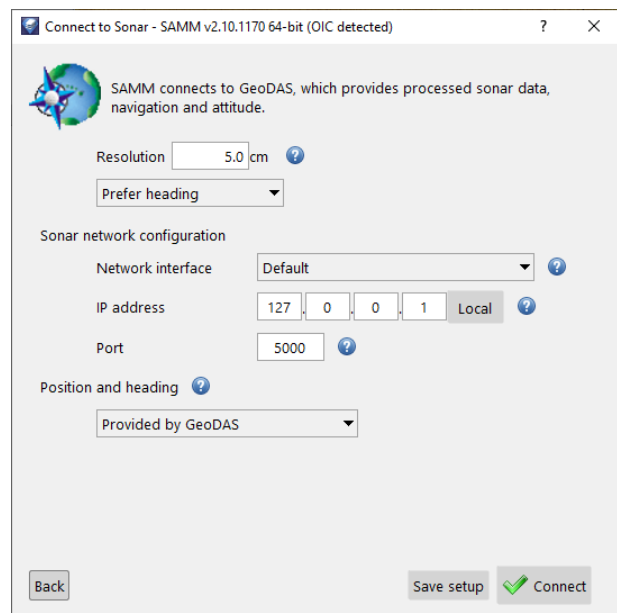

Figure 56. GeoDAS Interfacing
8. In the GeoDAS interface window (Figure 56 **Error! Reference source not found.**), set processing parameters as necessary.